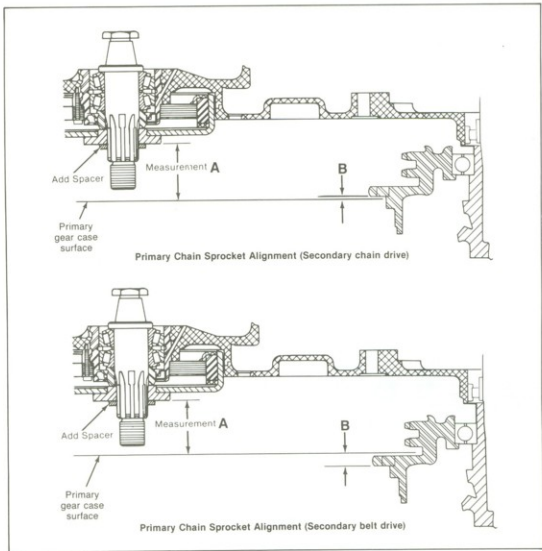

Figure 6-4. Chain Sprocket Alignment
2. See Figure 6-4 or 6-5. Disassemble components of compensating sprocket
2. See Figure 6-4. Apply grease to cam lobes (4 and 5).
Sprocket Alignment Wet Clutch (Figure 6-4)